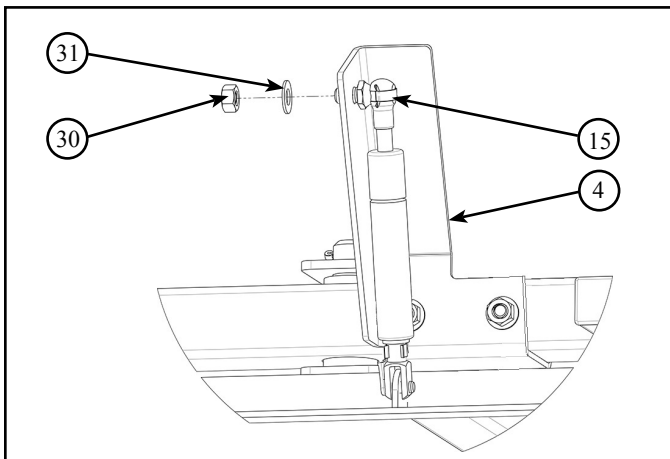

Figure 3.16 - Gas Spring Bracket
- Insert the bolt end of the gas spring (15) into the gas spring bracket (4) hole. Refer to Figure 3.16
- Install nylon washer (31) and lock nut (30) onto gas spring bolt (15). Refer to Figure 3.16